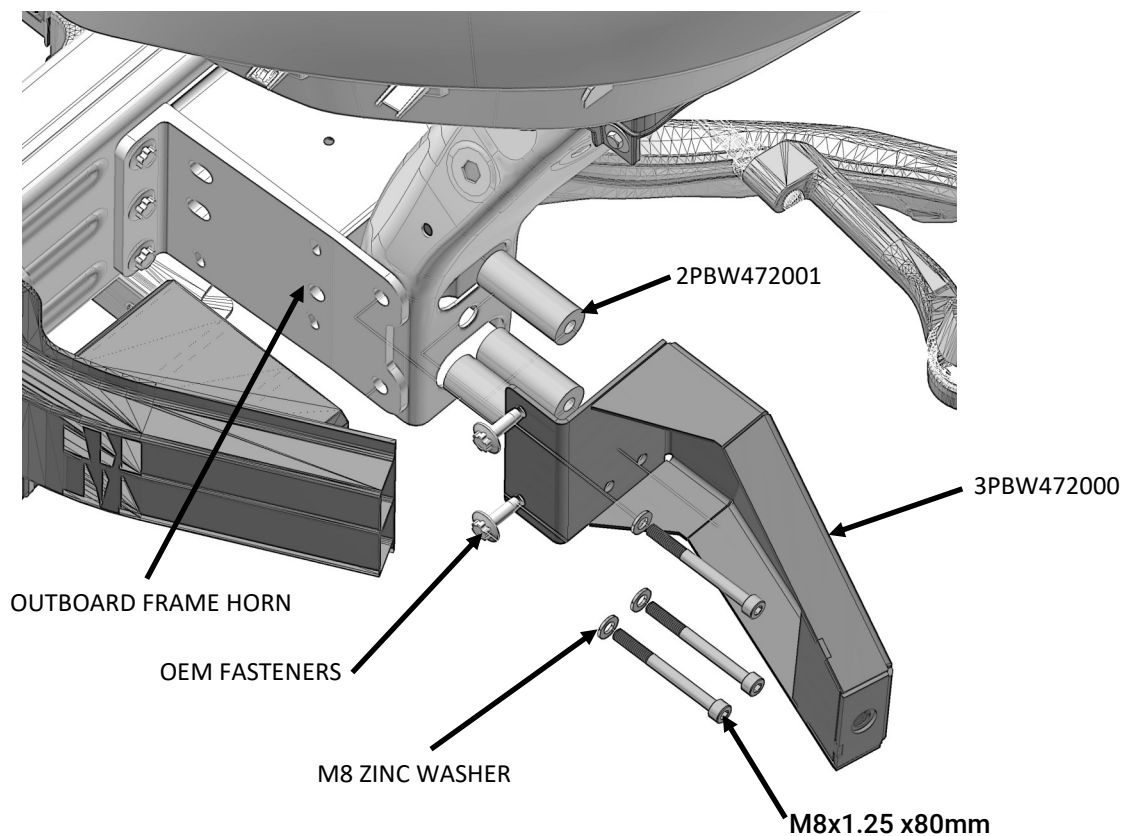

Fig. 2
- A. Remove OEM fasteners at forward surface of the outboard horns. (Fig. 2)
- B. Install (3) Interior Standoffs [2PBW4721001] and Outboard Bracket [3PBW472000] to outboard frame horns, re-using OEM fasteners. (Fig. 2)
- C. Fasten remaining mounting holes using (3) M8x1.25x80mm socket head cap screws and (3) M8 washers and tighten all.. (Fig. 2)